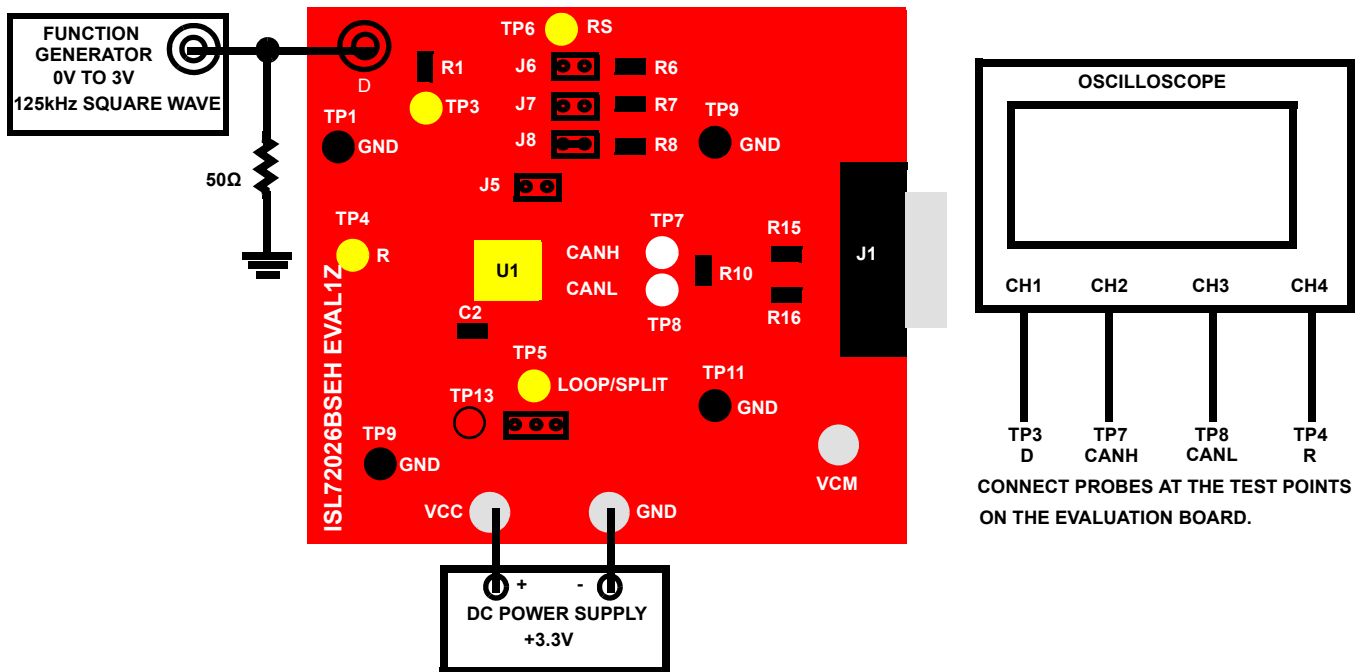

FIGURE 2. BASIC EVALUATION TEST SETUP BLOCK DIAGRAM (MEASURING PROPAGATION DELAY, SKEW, AND RISE/FALL TIME)
Refer to Figure 2 on page 4.
1. Attach the main evaluation board to the DC power supply to the banana jacks labeled VCC and GND as shown in Figure 2. Positive terminal at VCC and negative terminal at GND. The supply should be capable of delivering 3.0V to 3.6V and 100mA of current. Set the supply voltage to 3.3V.
3. Connect the oscilloscope to the evaluation board as indicated in Figure 2.
4. Connect the function/signal generator at the BNC connector labeled D on the evaluation board as shown in Figure 2. Set the generator to output a 125kHz square wave, 0V to 3.3V amplitude, 50% duty cycle with a $t_{rise} = t_{fall} \leq 6ns$. Disable the generator output.